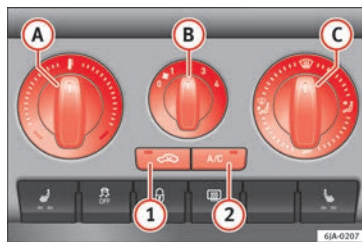

Fig. 87 Air conditioning: controls.
The air cooling system only works if **(A/C)** button **(2)** » **Fig. 87** » page 90 is pressed and under following conditions:
- Turn rotary control **(A)** » **Fig. 87** clockwise to increase the temperature.
- Turn rotary control **(B)** » **Fig. 87** to position 1 to 4 to switch the blower on.
- Turn rotary control **C** » **Fig. 87** to select the air vents » **page 88** you wish to activate.
- Press the button **A/C** **2** » **Fig. 87** and the lamp in the button will illuminate.
- Controls A » Fig. 87 » page 90, B, C and buttons 1 and 2.
– Press button  **1** » **Fig. 87** » **page 90** and the lamp in the button will illuminate.
– Press button  **1** » **Fig. 87** » **page 90** again and the lamp in the button will switch off.
If air distribution control **C** » **Fig. 87** » **page 90** is in position , air recirculation mode switches off automatically. Press the  button to switch air recirculation mode back on in this position.